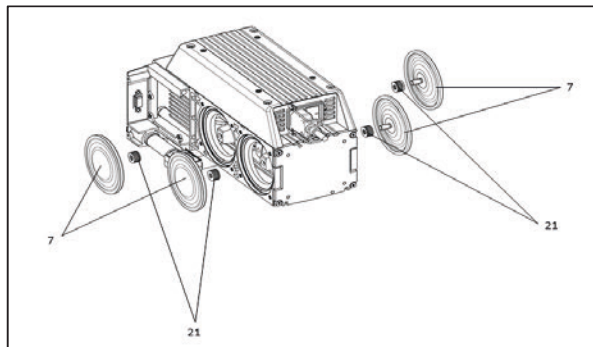

Fig. 9: Replacing diaphragm
1. Manually remove the four diaphragms (Fig. 9/7) by turning them in the counterclockwise direction.
3. Manually screw the ne diaphragms (Fig. 9/7) into the connecting rod's threads and tighten to hand tightness.